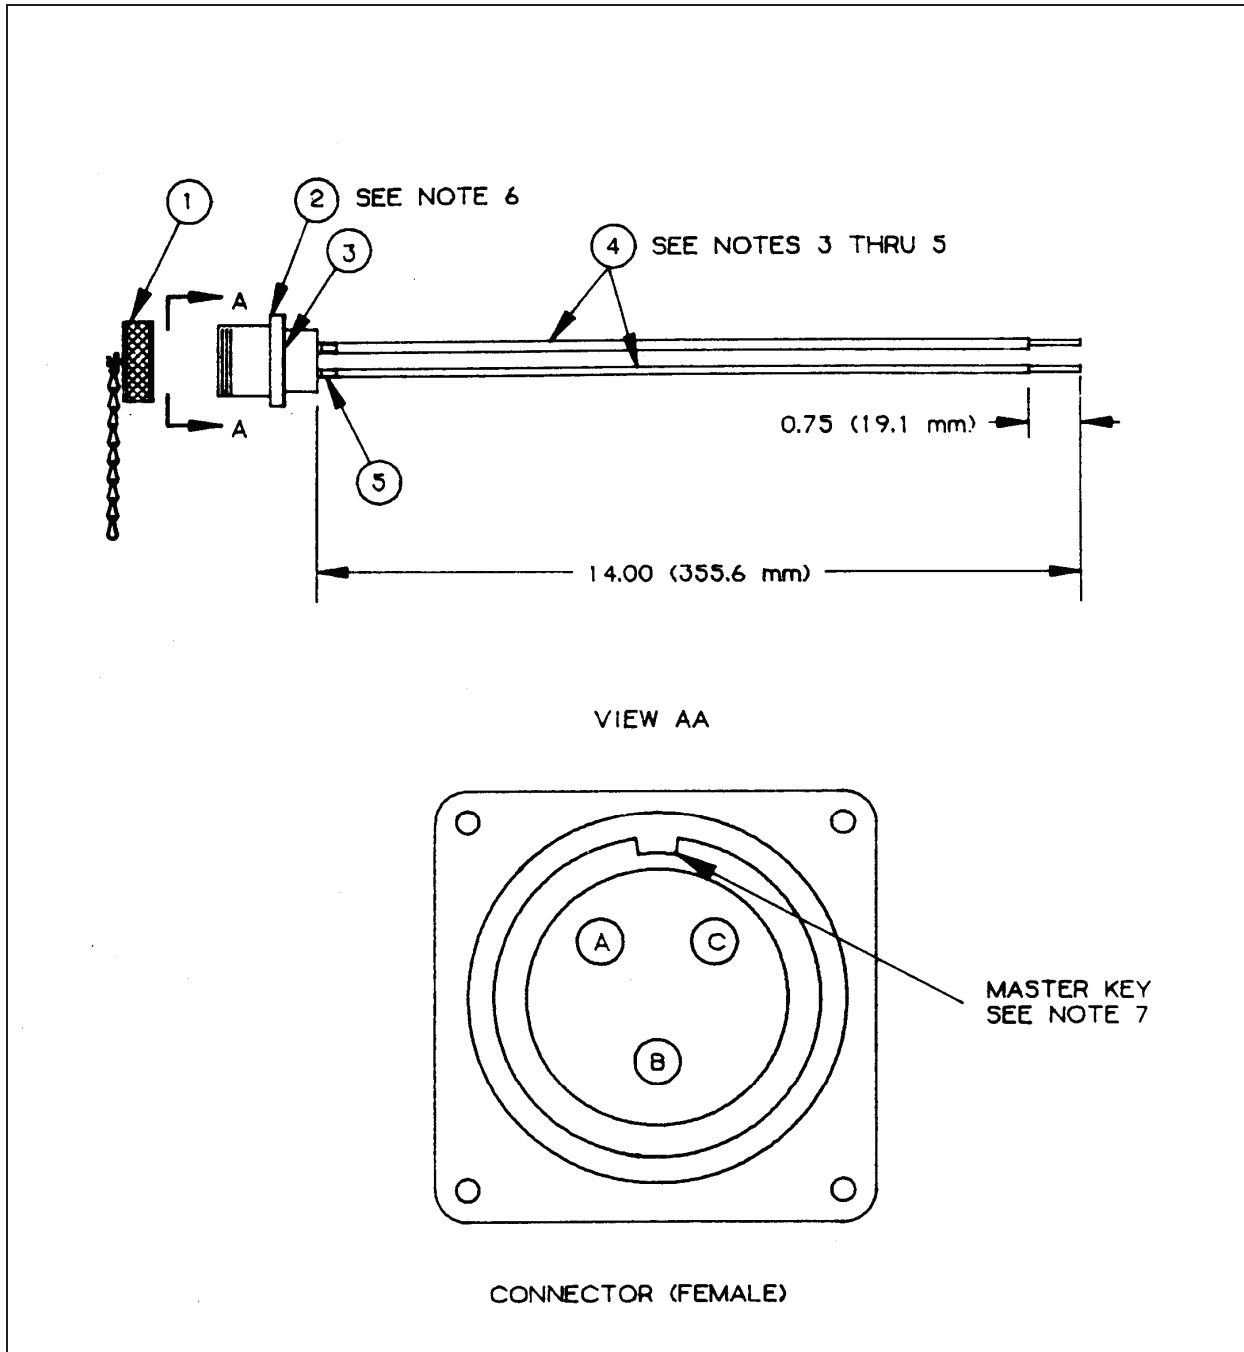

Figure F-13. Feeder Center Output Connector Assemblies, 60-Amp.
Component Legend for Figure F-13
- c. Electrical connector (Figure F-13, Item 2) is furnished with the following: